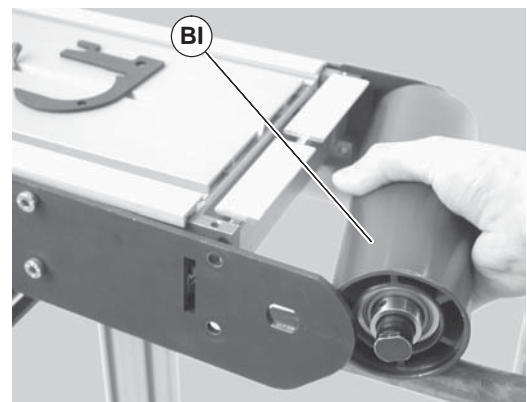

Figure 47
4. Slide the idler pulley assembly (Figure 47, item BI) out of the headplate on the opposite side.